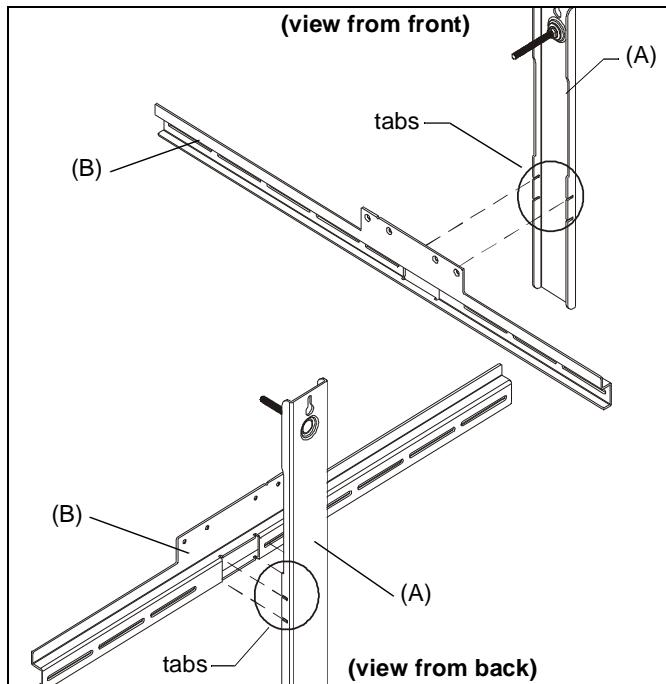

Figure 2
1. Slide the tabs on the upper wall bracket (A) into the slots on wall hanging bracket (B). (See Figure 2)